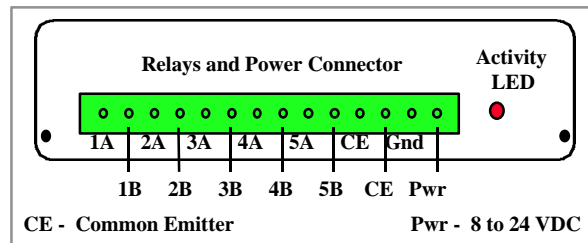

Figure 18 SAS-RI Rear Panel Connector
The shelf mount version brings ten (10) relay signals out via a multi-conductor cable connected at the rear of the SAS-RI shelf mount unit. This cable is made up of ten (10) conductors (open collector) for ten (10) relay signals and one (1) common conductor (common emitter) as shown in Figure 18. The two “CE” pins (Common Emitter) are common to all the relay signals. Power for the SAS-RI can range from 8 to 24 VDC since the SAS-RI has its own DC to DC regulator.